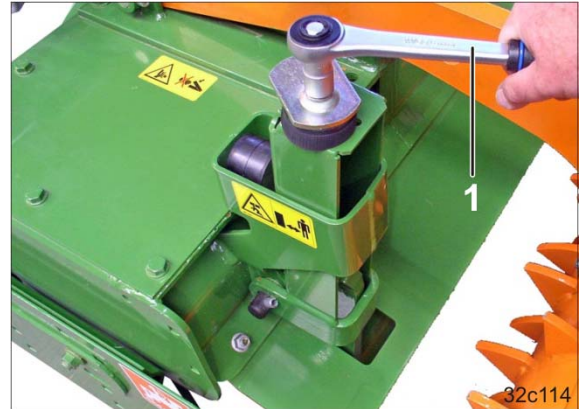

Fig. 109
1. Adjust the spindle of the levelling board using the ratchet (Fig. 109/1).